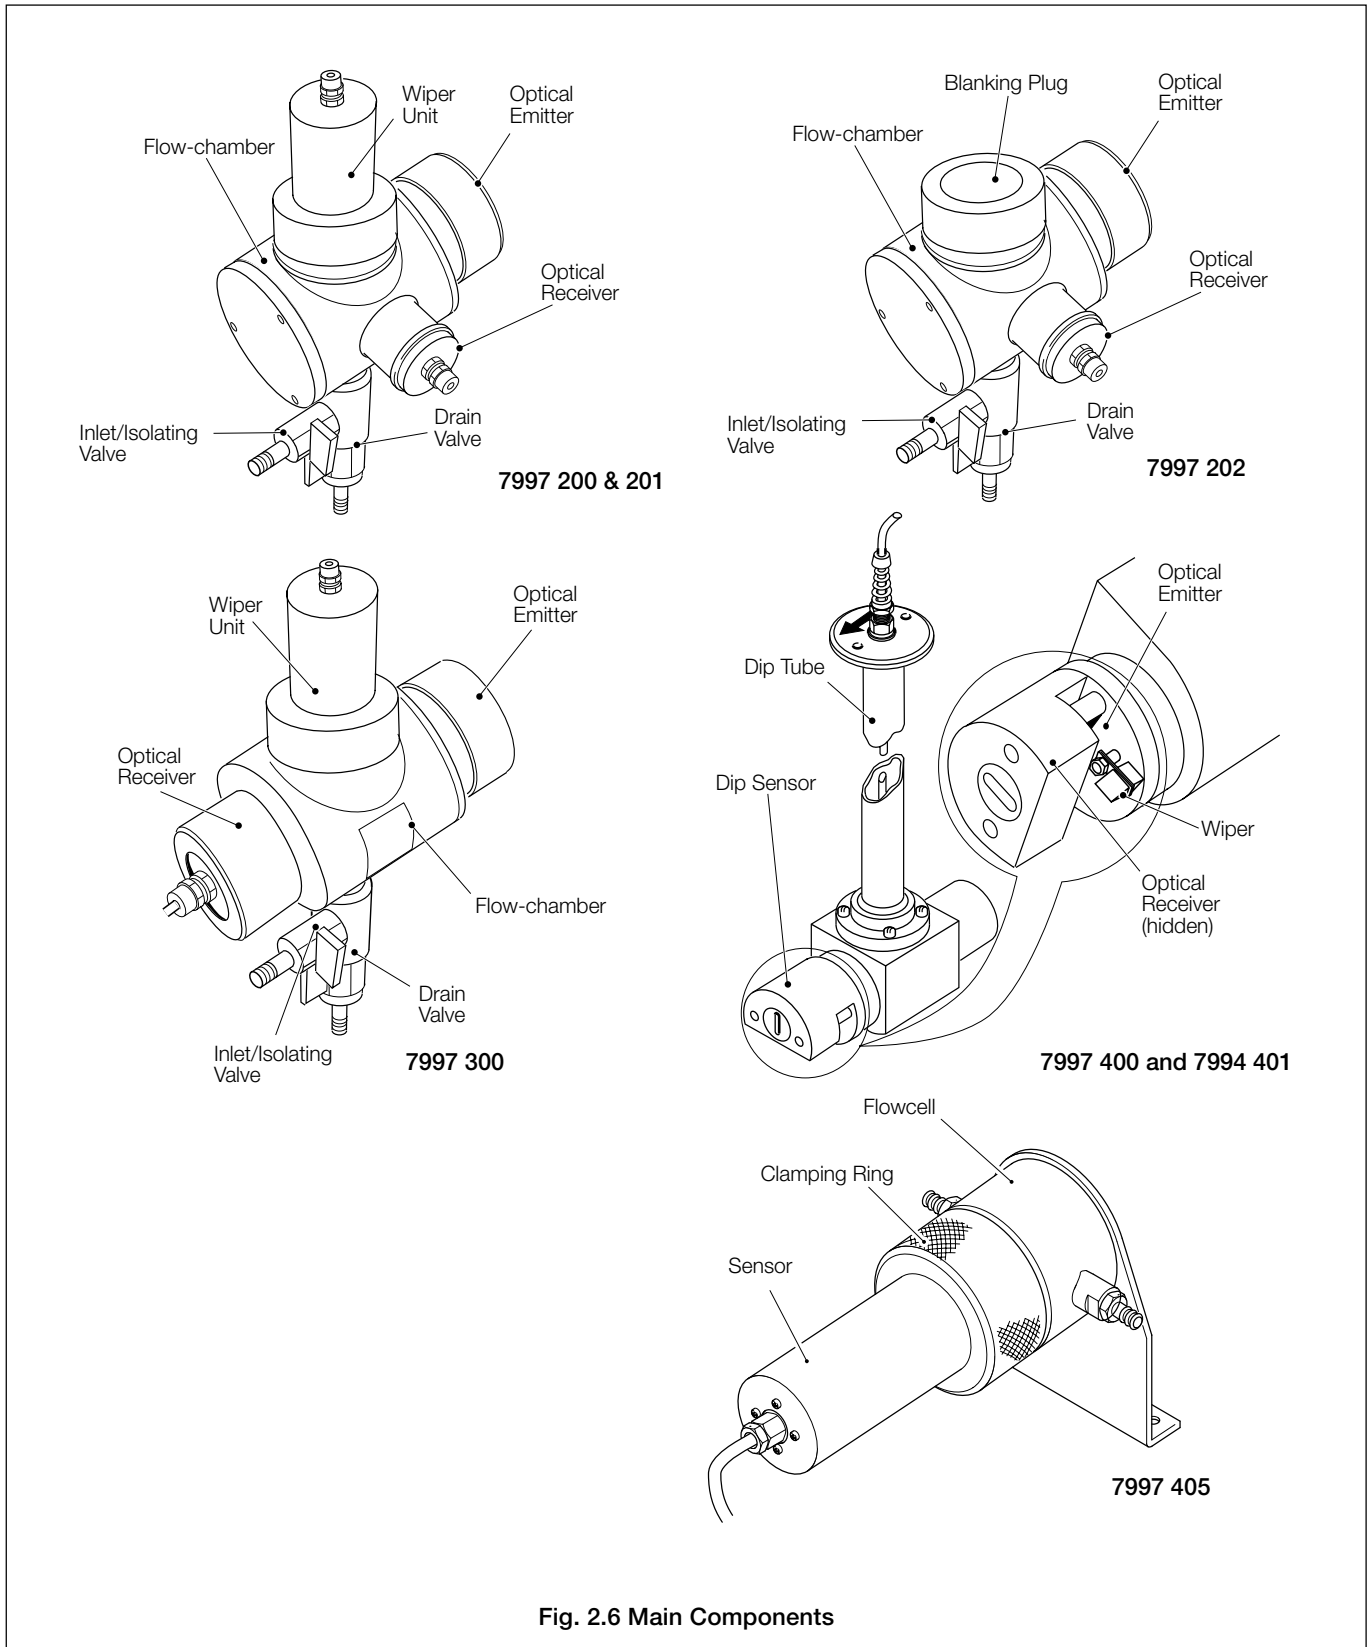

Fig. 2.6 Main Components
2.3 Installing the Turbidity Sensor Unit – Table 1.1 and Fig. 2.6
In applications with excessive flowrate, the sensor should be mounted with the arrow on the top of the dip tube, in line with the direction of flow – see Fig. 2.6.